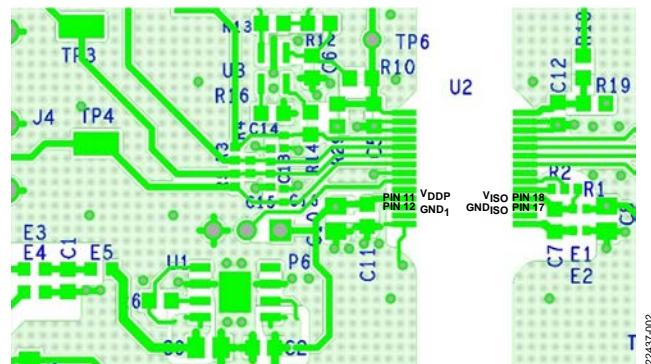

Figure 3. Layout Notes for EVAL-ADUM6421ARNZ/EVAL-ADUM6421AURNZ
- Ensure that V_{ISO} (Pin 18) is connected through the E2 ferrite bead before connecting to the V_{ISO} load, as shown in Figure 3.
- Ensure that there is a keep out area in the PCB layout around E1 and E2, as shown in Figure 3.